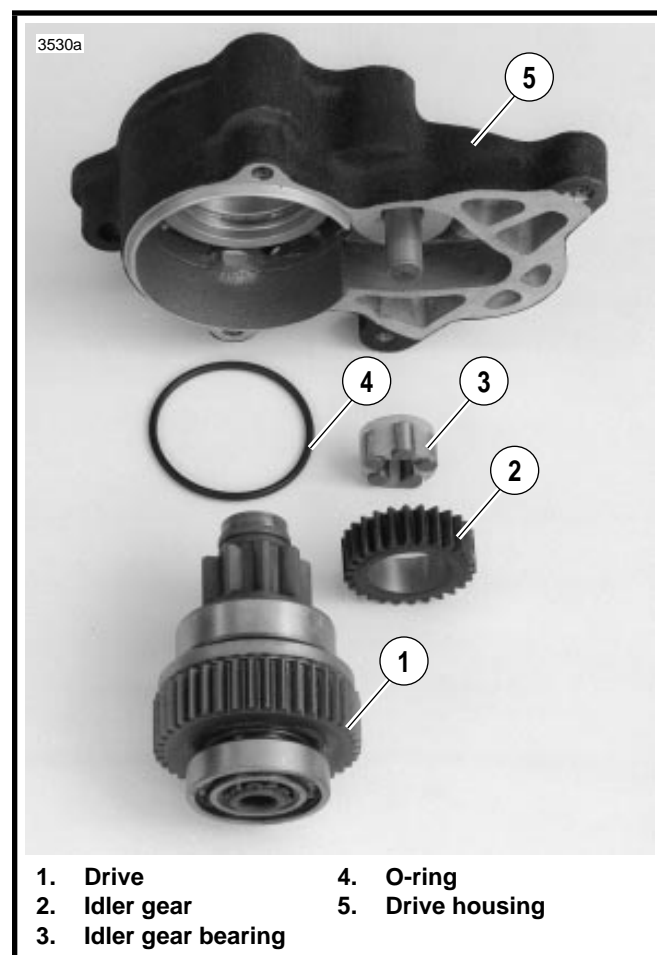

Figure 5-24. Starter Drive Assembly
17. See Figure 5-24. Remove drive (1), idler gear (2), idler gear bearing (3), and O-ring (4) from drive housing (O-ring is located in drive housing groove).
1. See Figure 5-24. Clean, inspect and lubricate drive assembly components. Lubricate parts with high temperature grease, such as LUBRIPLATE 110.